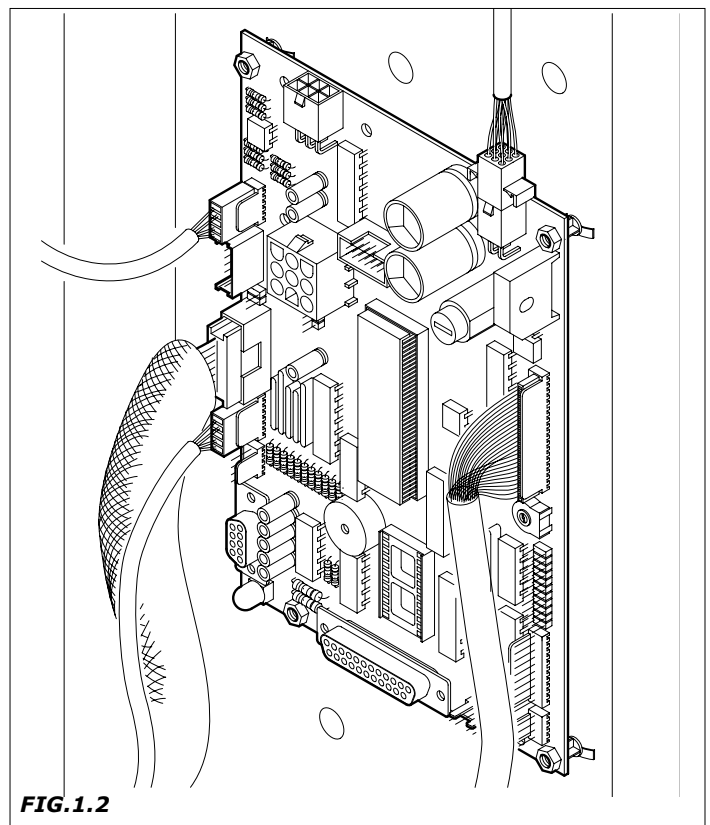

FIG.1.2
- version of program contained in the microprocessor (adhesive label applied to the component assembled on the Master board) (Fig.1.2).